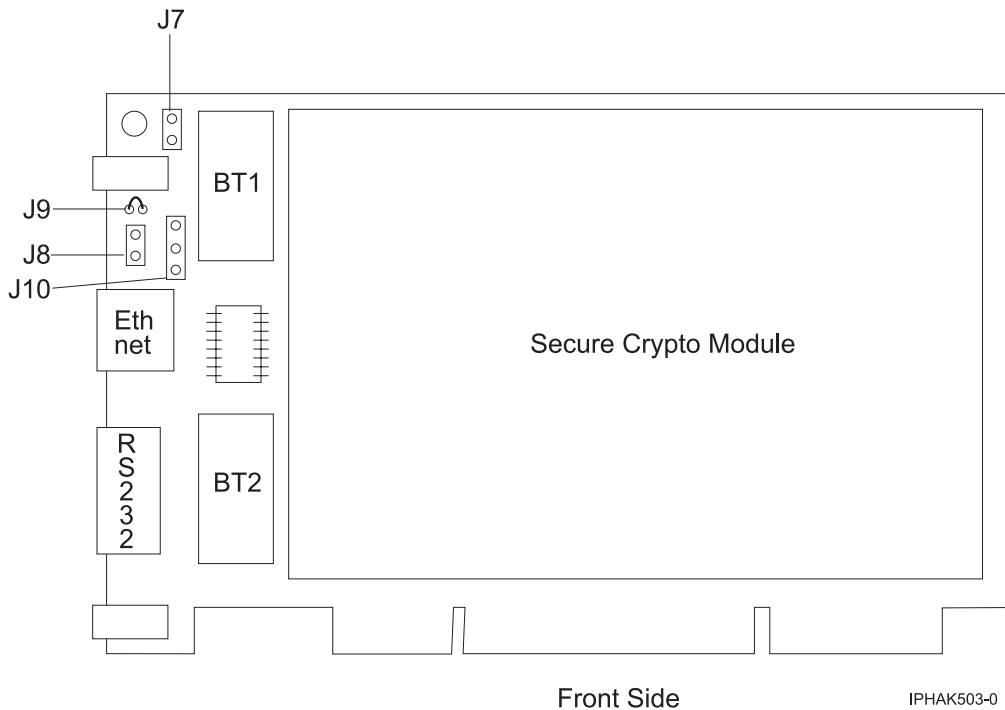

Figure 61. Front side of the adapter
6. Insert one of the new batteries into the battery tray provided with the kit. Align the + on the battery with the + on the battery tray (the end with the red wire). Connect the tray wires to the J10 connector located near the RS-232 serial port, as shown in Figure 61 on page 220. The connector is polarized to ensure a correct connection.